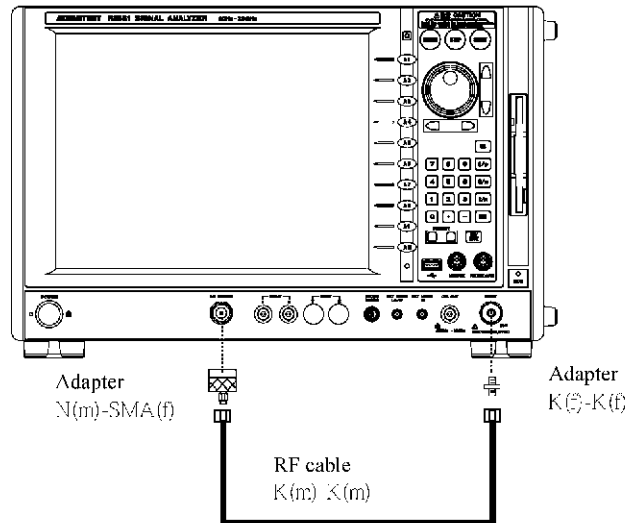

Figure 8-26 Connection Diagram for the Frequency Accuracy Verification
2. Connect the instruments as shown in Figure 8-26.